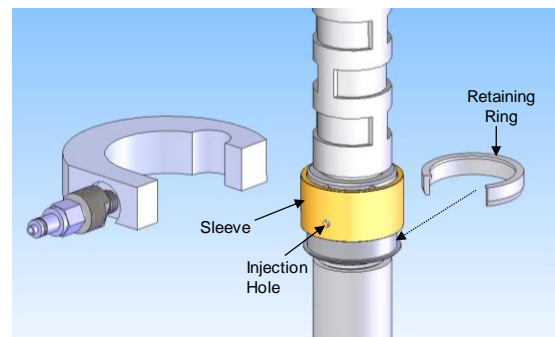

Figure 3: Position sleeve in the inject position.
- Use the retaining ring to help position and hold the sleeve in the inject position (Figure 3).